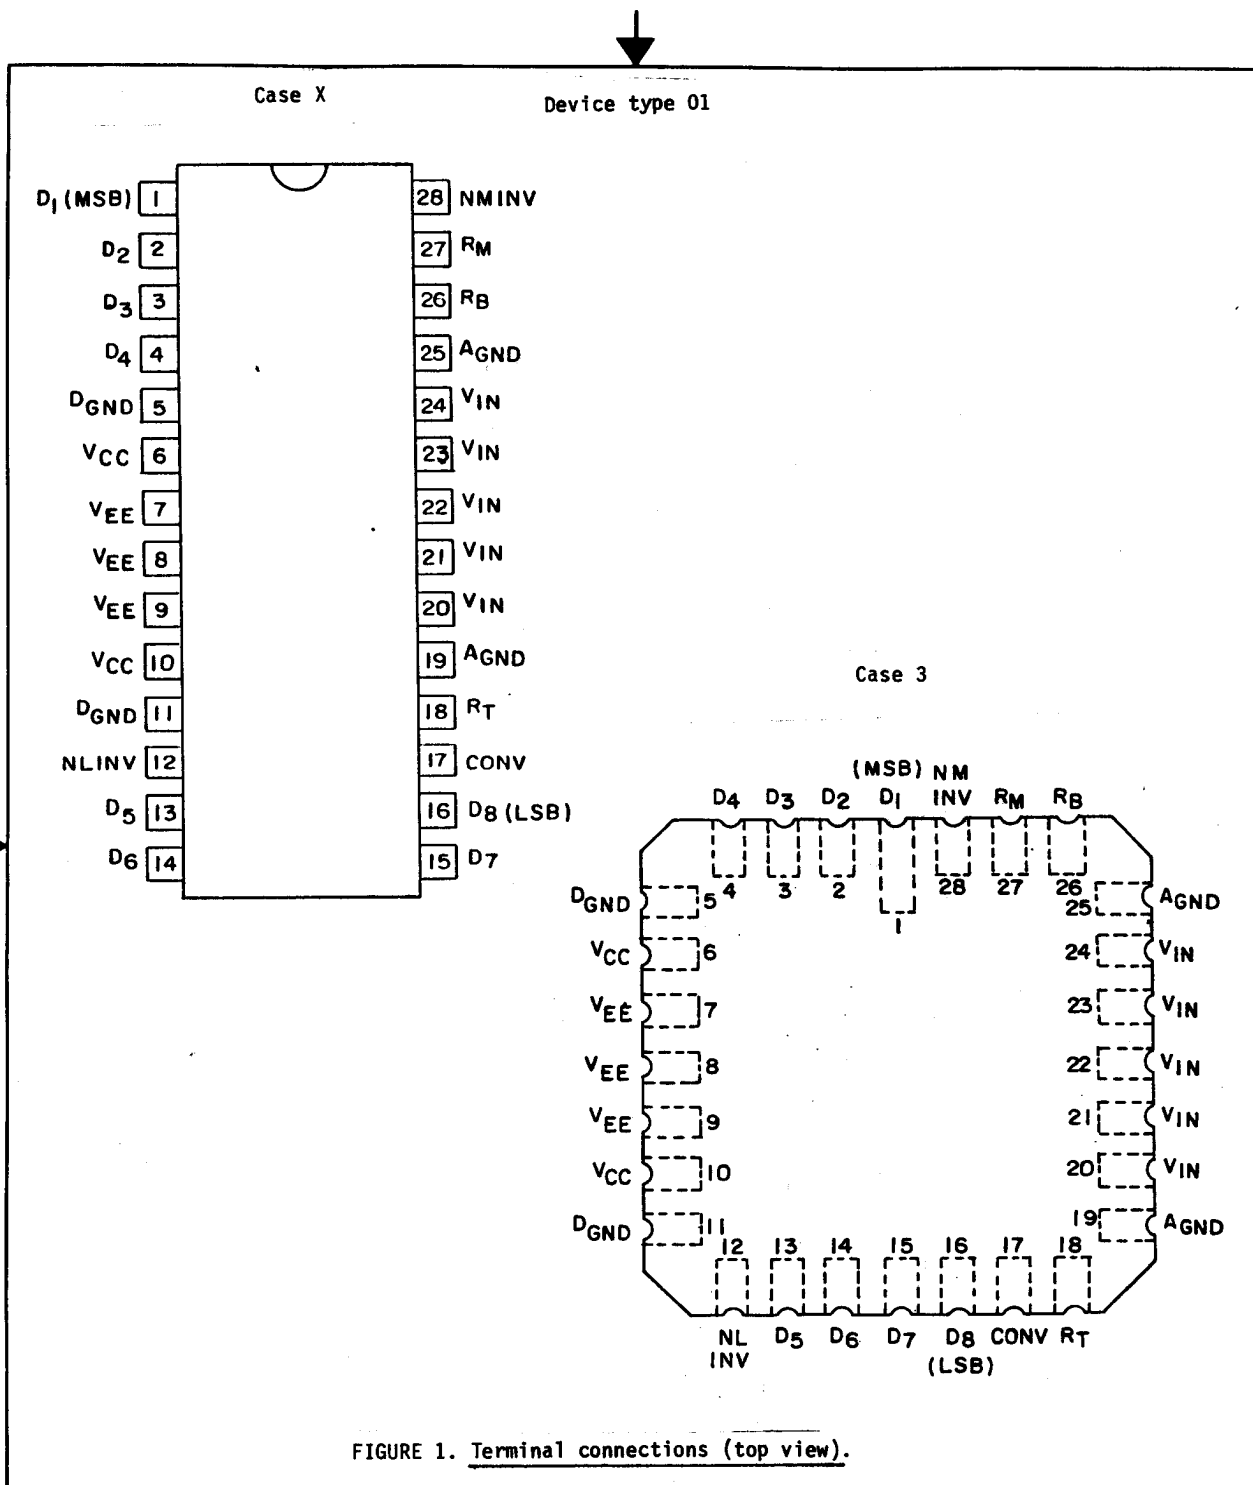

FIGURE 1. Terminal connections (top view).
3.2.1 Terminal connections. The terminal connections shall be as specified on figure 1.